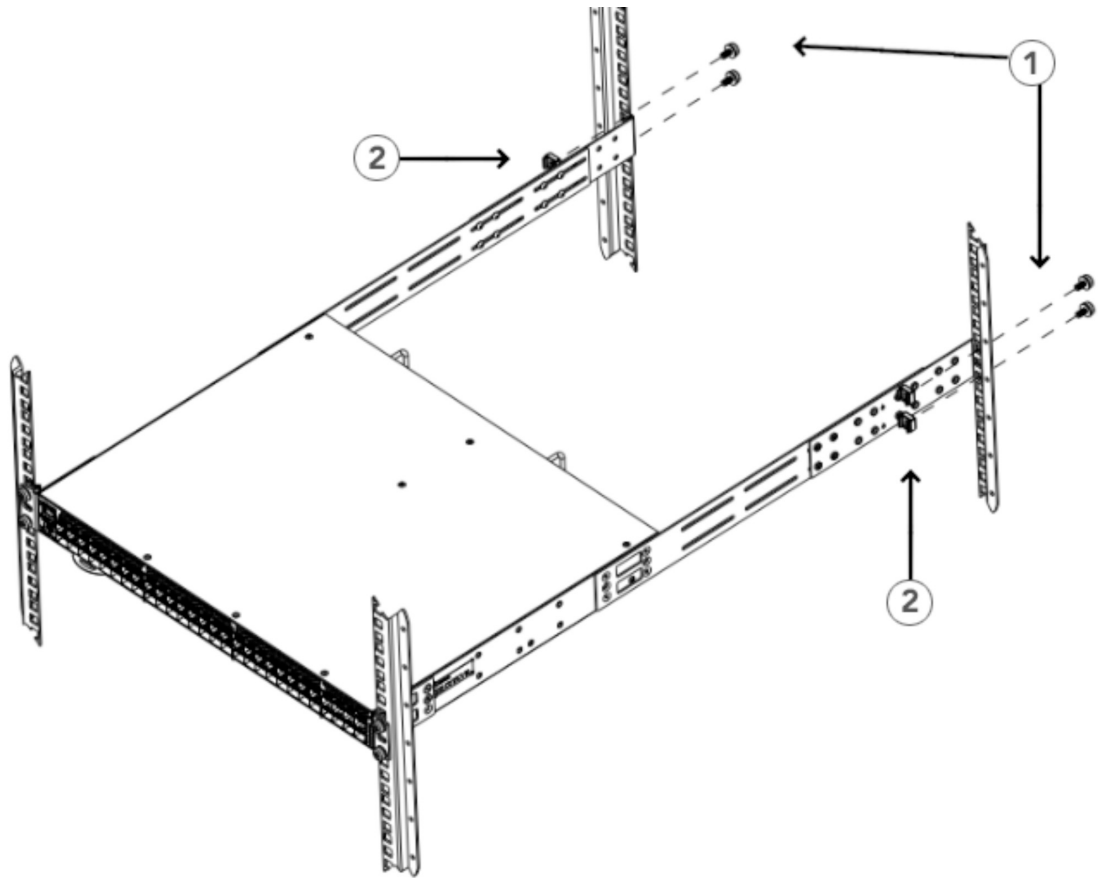

Figure 8. Attaching the Rear Brackets to the Rack Posts
1. Attach the right rear bracket to the right rear rack post using two 10-32 x 5/8-in. panhead screws and two retainer nuts, as shown in Figure 8. Use the upper and lower holes in the bracket.